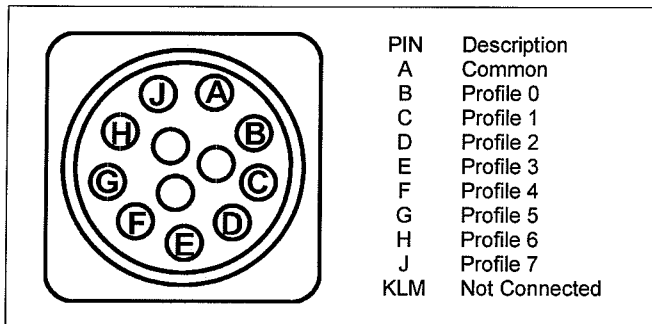

FIG.9 Earth return connection
7. Earth Probe Socket – for no-burn Earth Probe or Earth Return clip lead. See fig.9 for details.